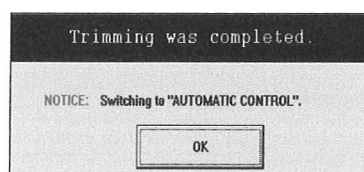

Fig.48
- ⑦ Clicking on "NO" button exits the analog output trim. You will see a message box "Output trim has ended" as shown in Fig. 48. Click on "OK" button.